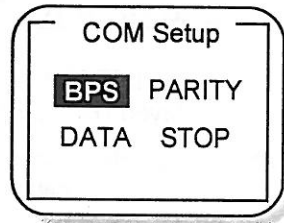

Fig. 3-5
Following selection of the desired COM port, the Com Setup menu (Fig. 3-5) will be displayed.
- 2) Position the highlight bar over the desired setting and depress the (ENT) key. The selected baud rate will be stored and the display will return to the COM Setup menu (Fig. 3-5).
- 2) Position the highlight bar over the desired setting and depress the (ENT) key. The selected parity will be stored and the display will return to the COM Setup menu (Fig. 3-5).
- 2) Position the highlight bar over the desired setting and depress the (ENT) key. The data bit selection will be stored and the display will return to the COM Setup menu (Fig. 3-5).
- 2) Position the highlight bar over the desired setting and depress the (ENT) key. The stop bit selection will be stored and the display will return to the COM Setup menu (Fig. 3-5). Depress the (F2) key to return to the Setup menu.